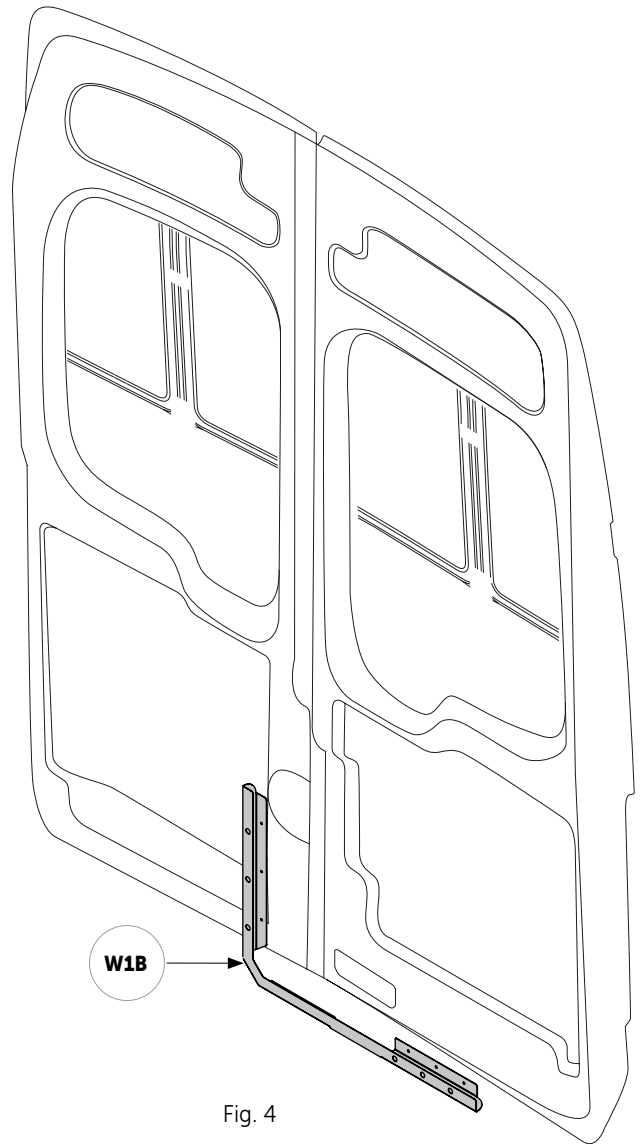
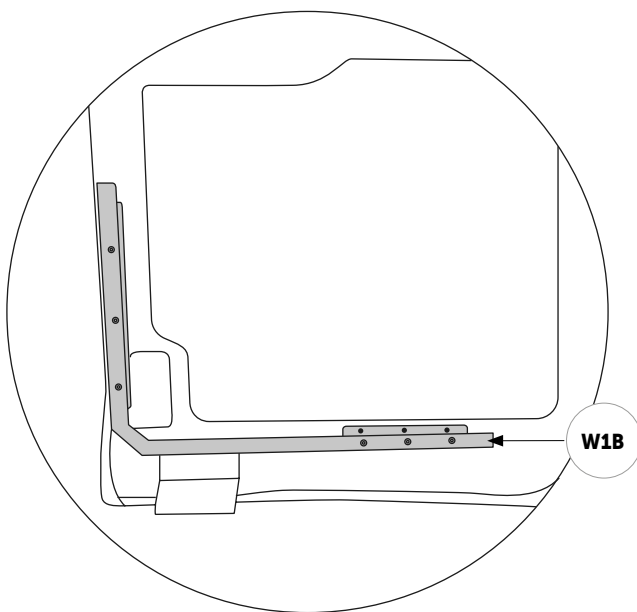

Fig. 4
Fig. 5
1. Position **W1B** so that it is vertically flush with the side of the door (Fig. 4 and Fig. 5) and the matching cut-out covering the embossing (fig. 6). Mark the screw hole locations. Drill the holes and then screw in **W1B**.